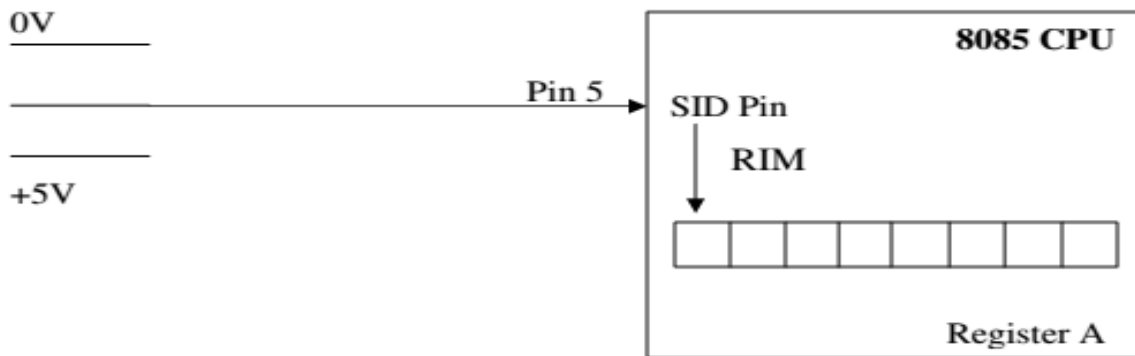

Fig.2 SID (Serial Input Data) line
- RIM instruction is used to read the SID line as shown in figure.2
- Bit A6 of the Accumulator is known as SOE (Serial output Enable). This bit Must be set to 1 to enable Serial data output as shown in figure.2